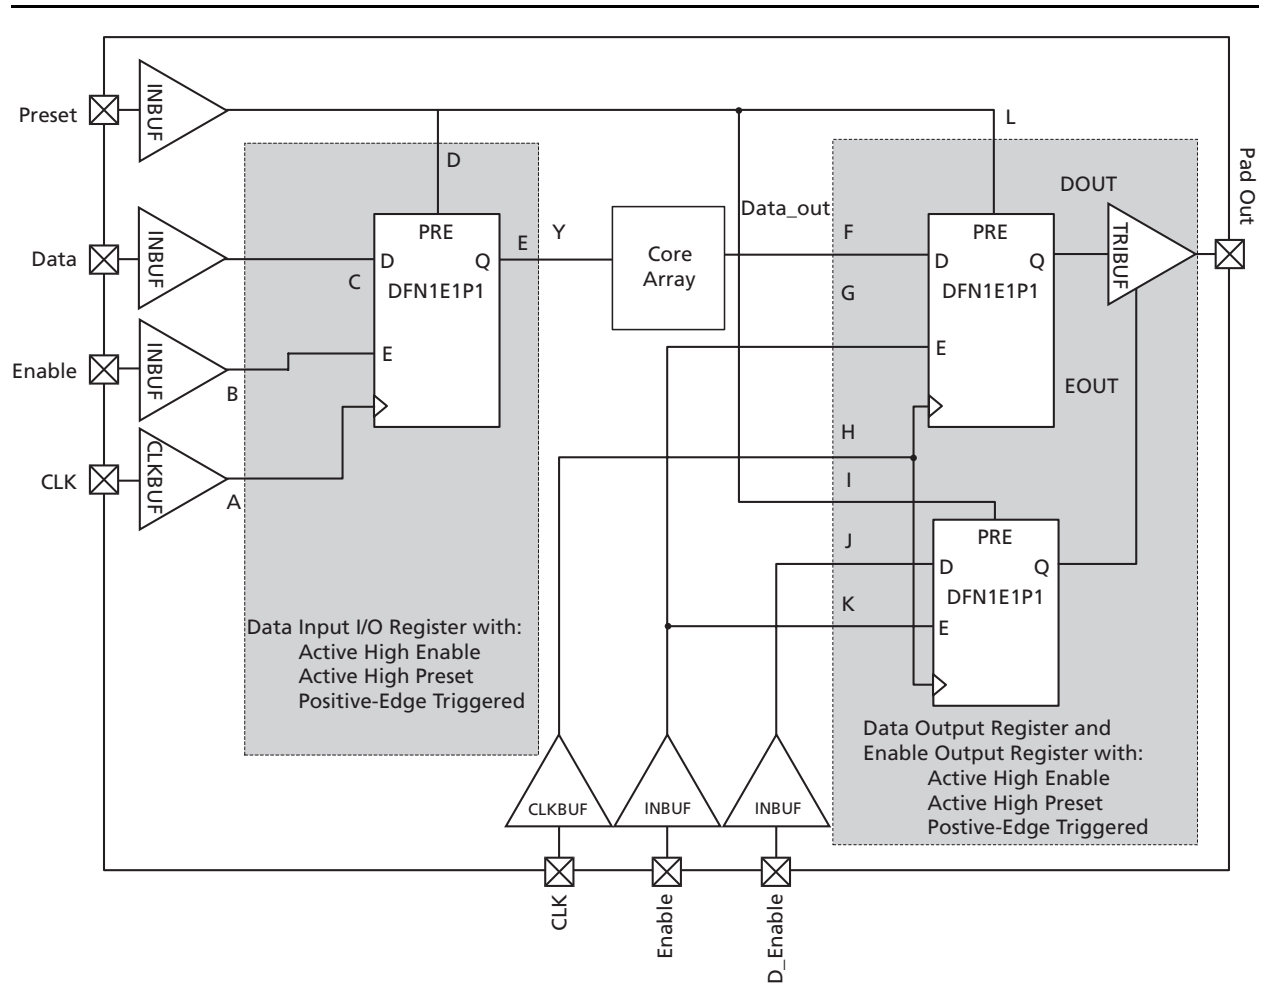

Figure 2-27 • Timing Model of Registered I/O Buffers with Synchronous Enable and Asynchronous Preset
* See Figure 2-27 on page 2-61 for more information.